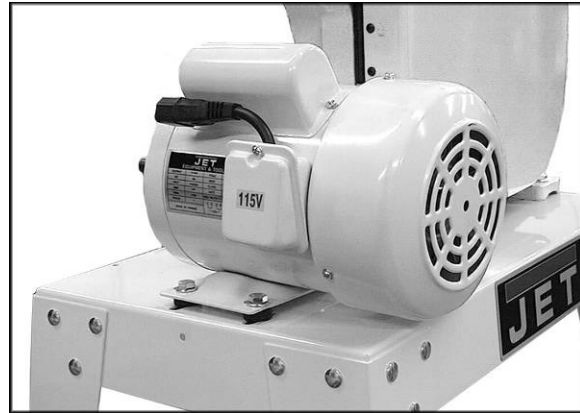
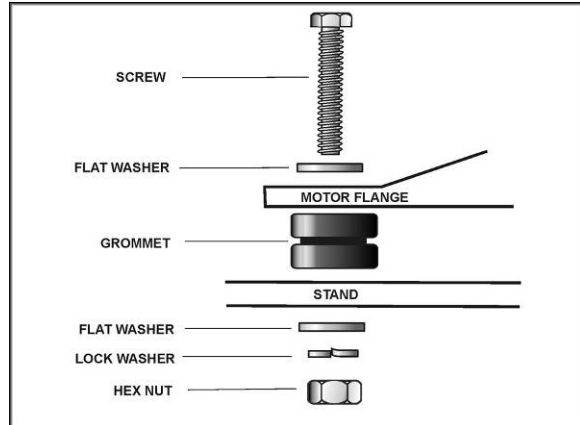

Figure 4
Figure 5
7. Place motor over rubber grommets and fasten to stand top with four hex cap screws, eight flat washers, four lock washers, and four hex nuts, as shown in item C, page 7. See Figure 4. The arrangement of these fasteners is shown in Figure 5. Do not tighten at this time.